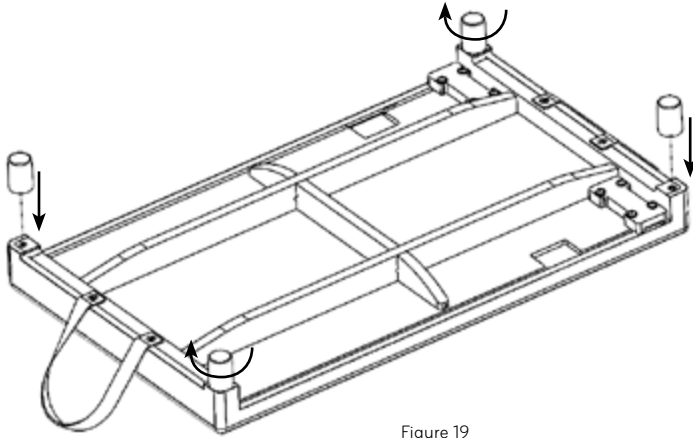

Figure 19
2. Find the (4) feet with a thread sticking out and thread them into the corner inserts on the bottom side of the mat conversion.
3. Turn them clockwise until tight. Hand tight is okay. See Figure 19.